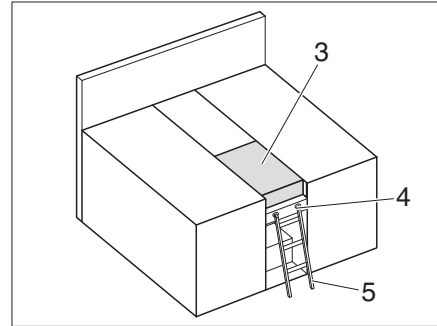

Fig. 180 Double bed
- Place additional cushion (Fig. 180,3).
- Remove additional cushion (Fig. 180,3).
Always use the access ladder (Fig. 180,5) provided as standard to reach the top bed.
- Attach the access ladder (Fig. 180,5) with the rails to the holder (Fig. 180,4) on the panel.